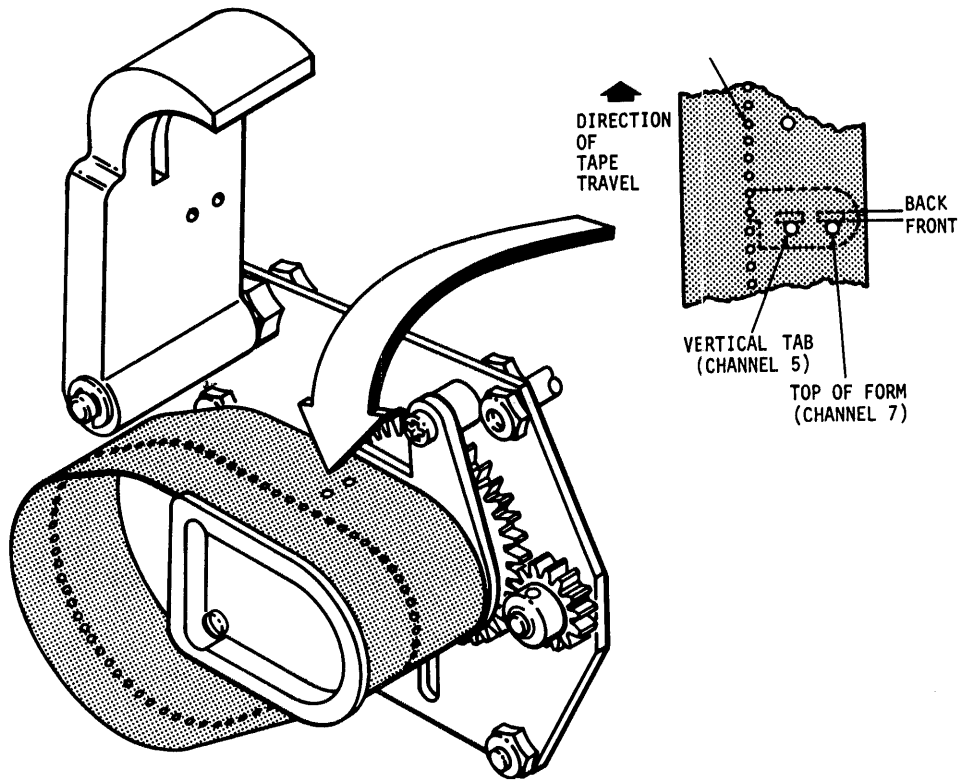

Figure 5-28. PAPER TAPE READER ADJUSTMENT
4. Remove drive shaft (32) by pulling it out from right-hand coupling (31).
- A. The following procedures details the adjustment and maintenance for the aligning of the paper tape holes with respect to the lower tape reader holes (Refer to Fig. 5-28).